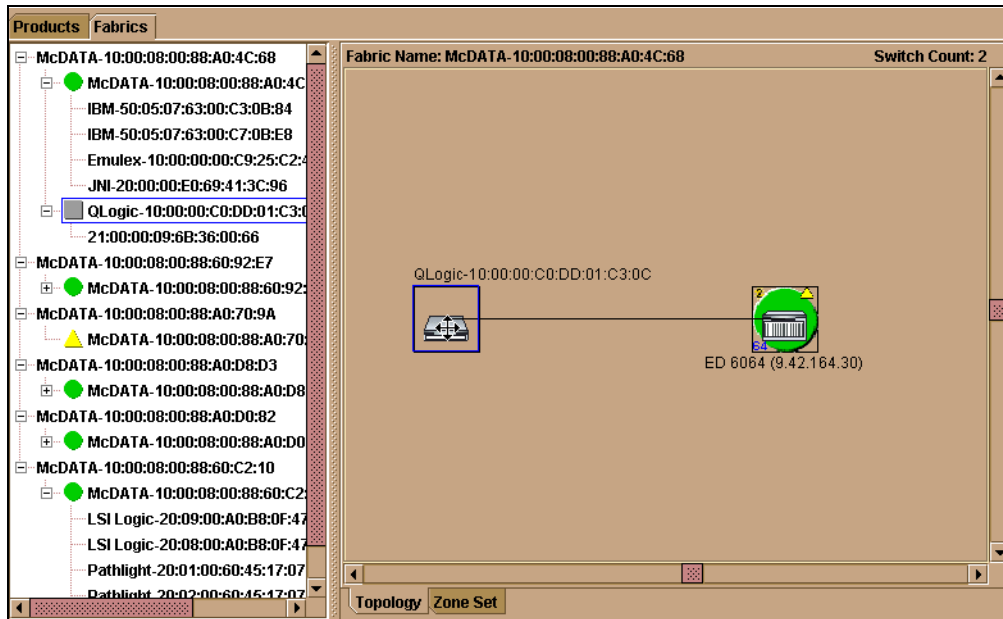

Figure 4-137 BladeCenter and ED-6064 fabric
7. Verify that the BladeCenter and the ED-6064 merged successfully using the topology menu as shown in Figure 4-137. This can also be verified from the SANUtility and CLI interfaces.